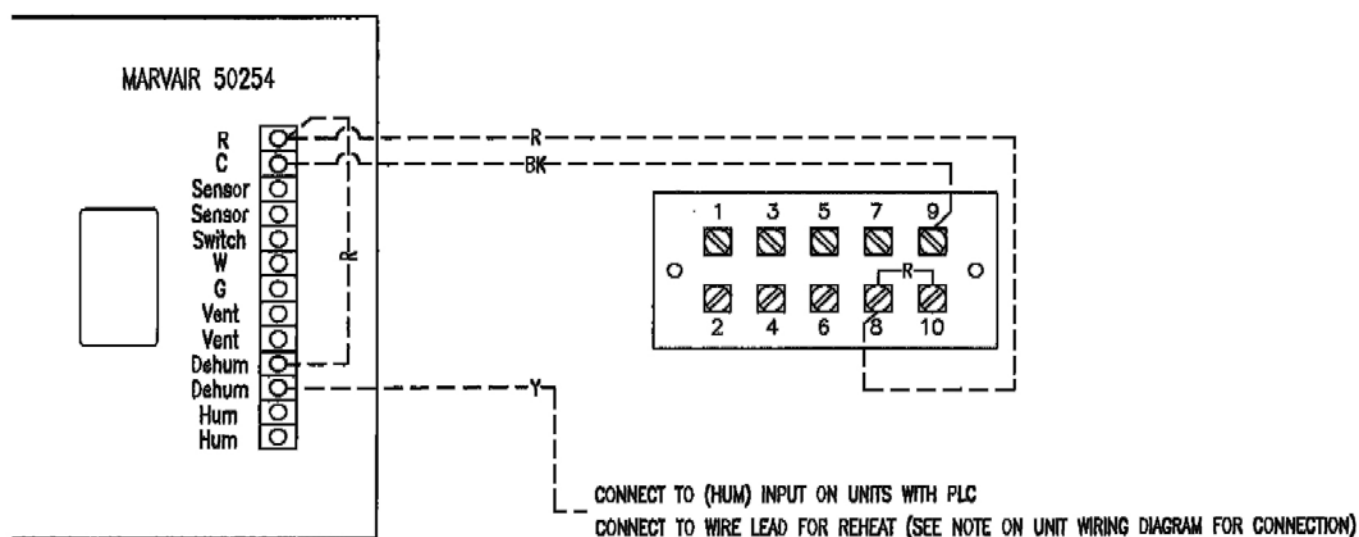

Figure 9a. Humidistat (P/N 50254) Wiring to a ComPac® Air Conditioner with Reheat.
2. Mount the thermostat on the wall of the shelter. The thermostat should be located so that the supply air from the unit does NOT blow directly on to the thermostat. Connect the thermostat to the terminal block in the air conditioner as shown in Figures 9a and 9b.